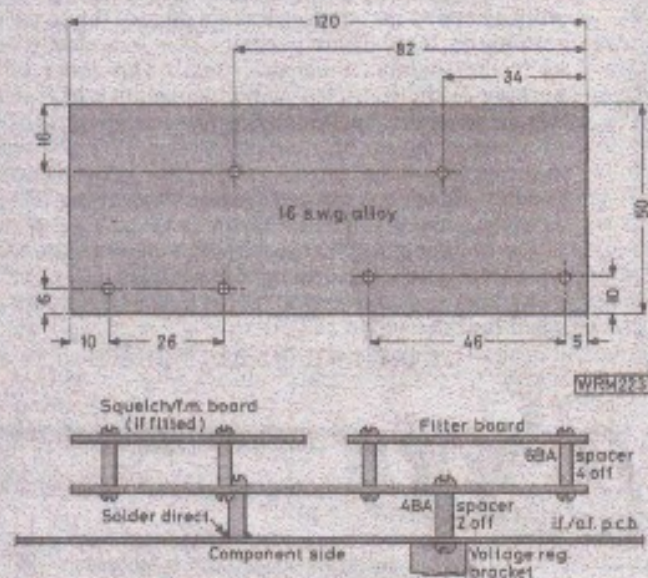

Fig. 2.3
i) Remove the screw that holds the voltage regulator heat-sink bracket at the end near the regulator. Replace this with a 4BA screw from the component side of the board (you may have to enlarge the hole) and on the foil side of the board screw a 12mm threaded stand-off pillar. Next locate a point just below the a.f. l.c. (Q410). Here there is a large area of ground foil and a second stand-off should be soldered directly onto this, 48mm away from the first pillar. These two stand-offs now provide the support for the bracket as shown in Fig. 2.3.